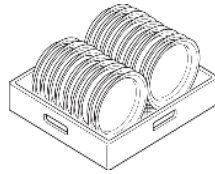

Fig.10
- 1- Load plates in frontal position. (Fig.10)